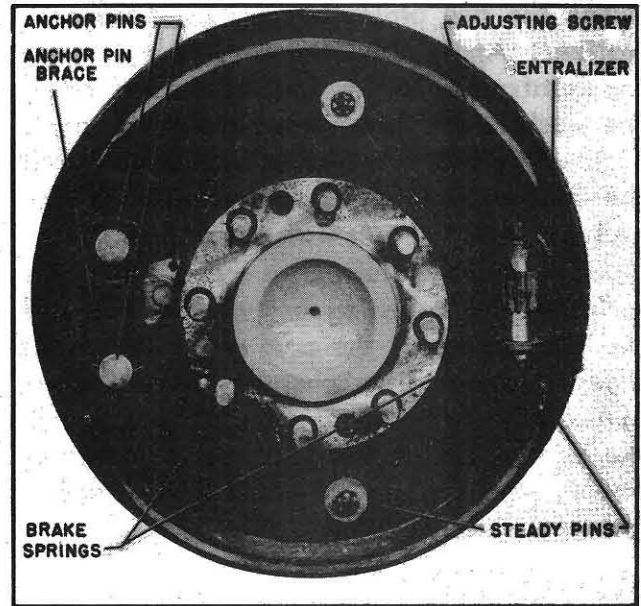

Fig. 280
3. Remove cotter pins from anchor pins and remove anchor pin brace, see Fig. 280.